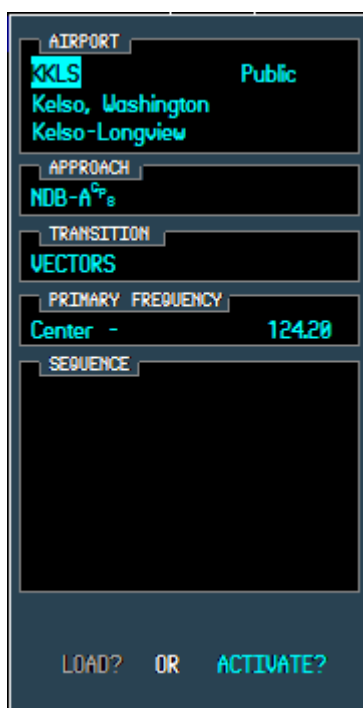

Figure 8.9
4. clicking on the ENTER button without a FPL or DTO will open the airport approach page as shown in Figure 8.9.